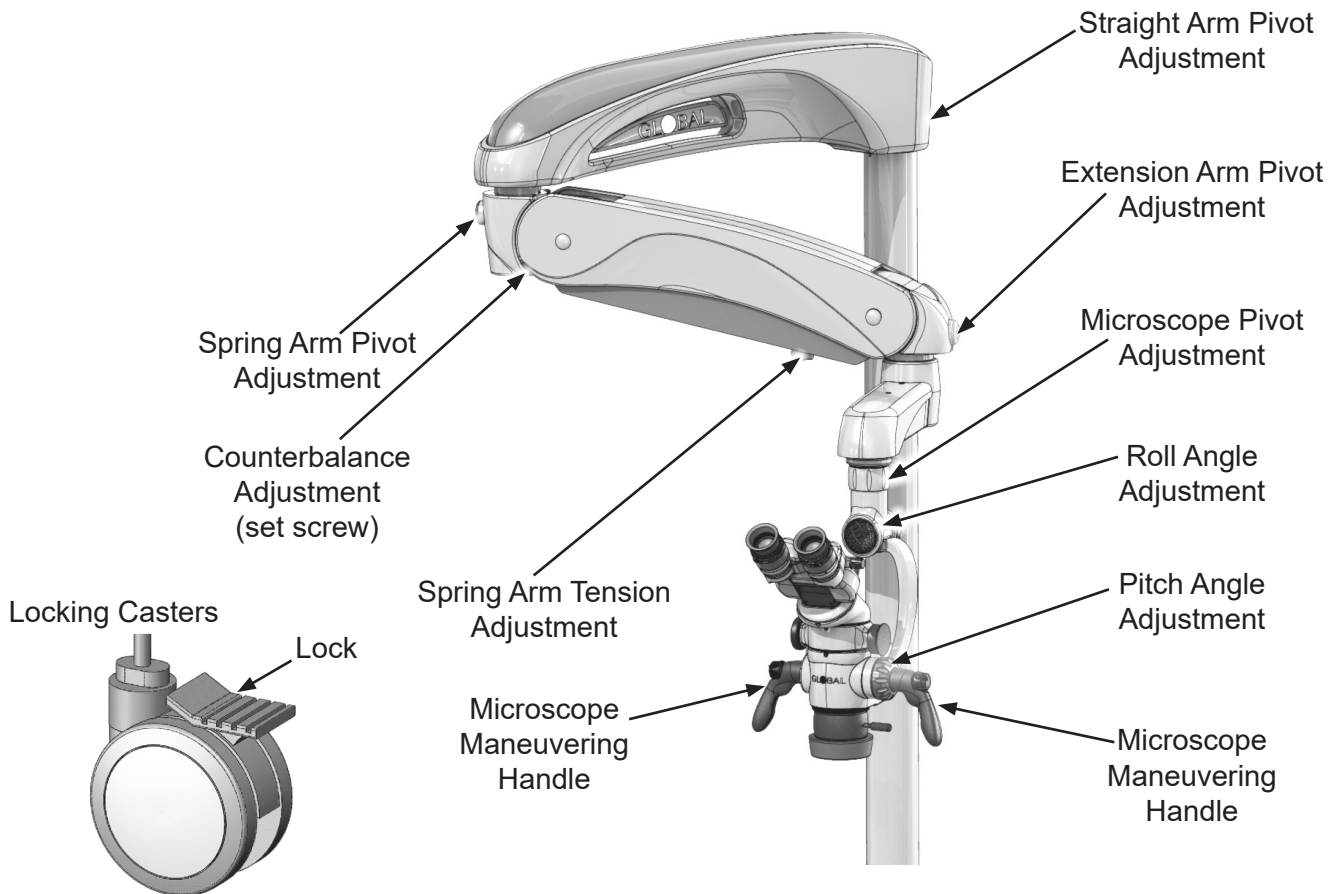

Figure 5-2 Location of Controls
Figure 5-2 shows the location of the system controls.
Adjusts the amount of tension required to move the spring arm up and down. Turn the knob to adjust the spring arm tension. **See Figure 5-2**
To secure the support system after it is rolled to its desired location, engage the locks on the casters. The lock is pushed down to obstruct regular wheel movement. This fixes the support system into a desired place. You can pull up the caster lock to release the wheel and move the support system, if necessary. **See Figure 5-2**
8. Tighten the spring arm tension adjustment (**See Figure 5-2** for location) on the spring arm assembly to prevent the microscope from moving. Set the magnification to the lowest setting. Focus both eyepieces, one at a time, by turning the diopter adjustment ring until the image is clear and sharp.